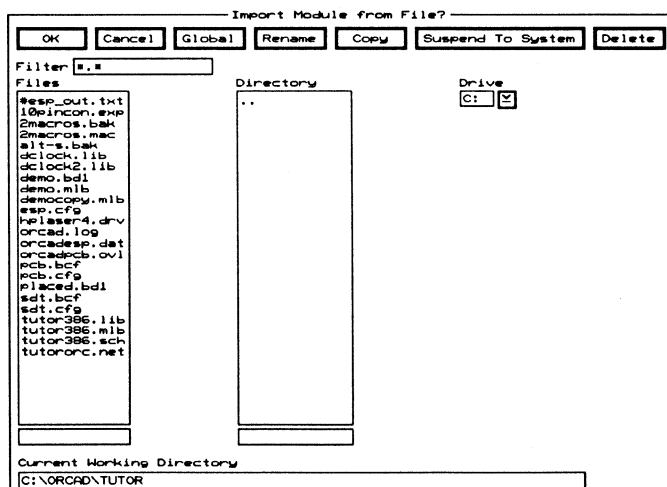

Figure 5-13. The **Import Module from File** dialog box.
4. Select **Import**. The **Import Module from File** dialog box displays (figure 5-13).